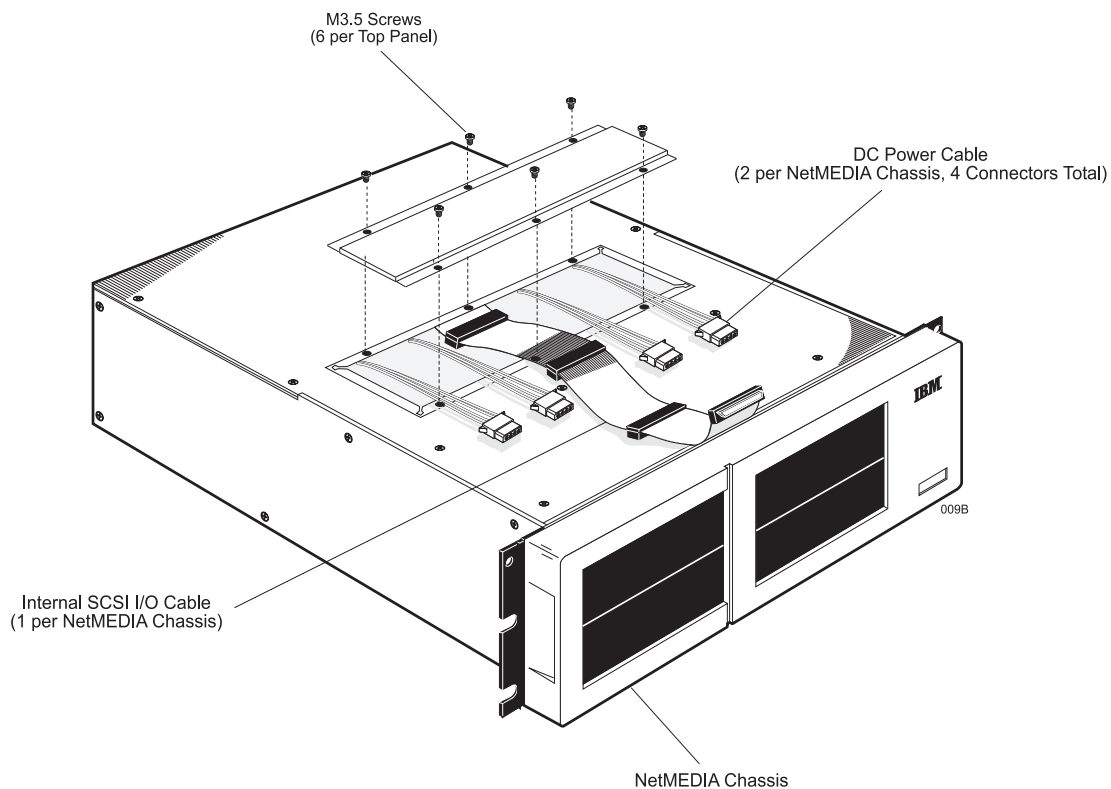

Figure 10: Top Service Panel
1. Unscrew the six (6) M3.5 screws that secure the top panel to the NetMEDIA chassis and remove the top panel (Figure 10).
3. To reinstall, secure the top panel back onto the chassis using the same six (6) M3.5 screws.